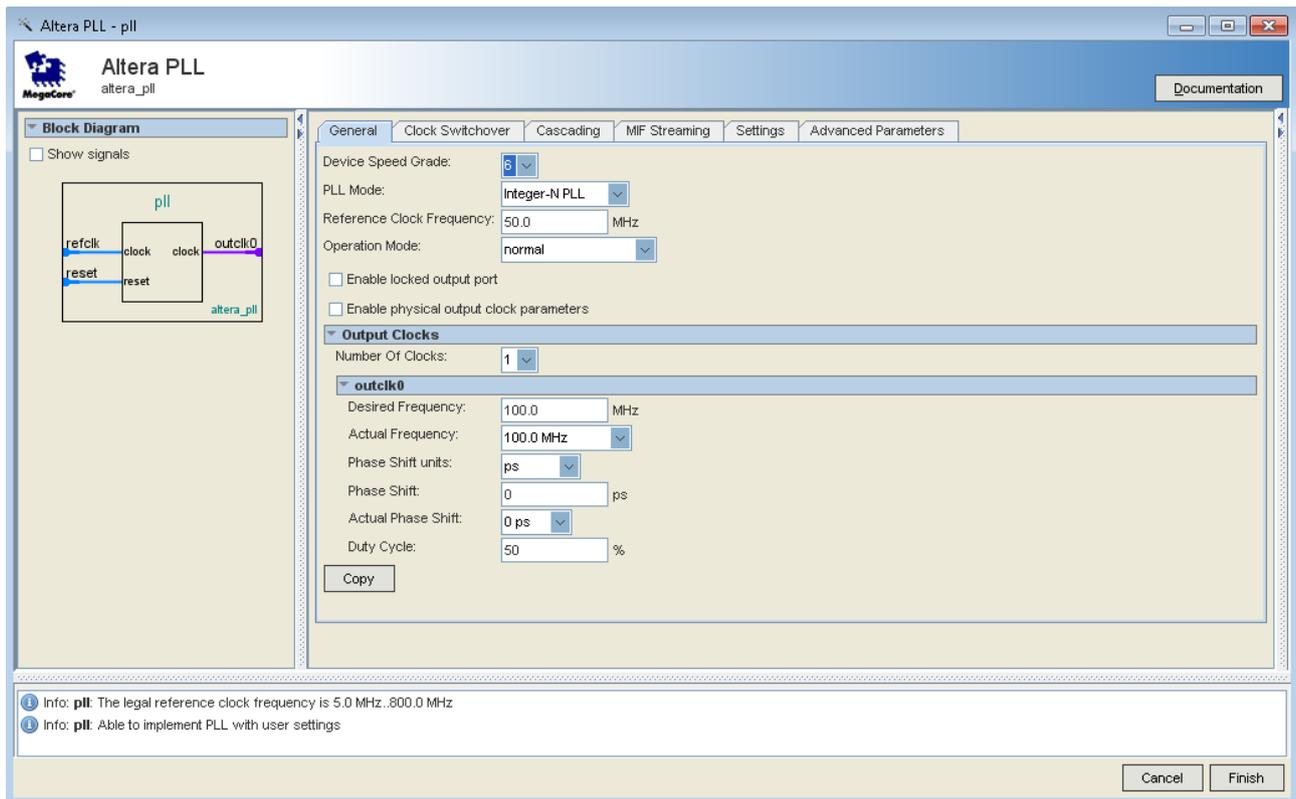

Figure 3-11 MegaWizard Plug-In Manager Selections
6. Turn off the Enable locked output port option on MegaWizard . As you turn it off, pin disappear from the PLL block’s graphical preview. See Figure 3-11 for an example.